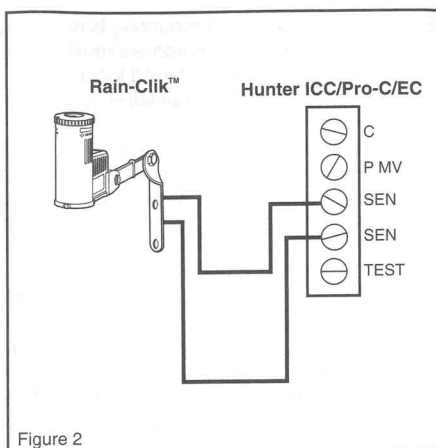

Figure 2
3. Connect one wire to the terminal labeled "SEN" and the other wire to the other "SEN" terminal (See Figure 2).